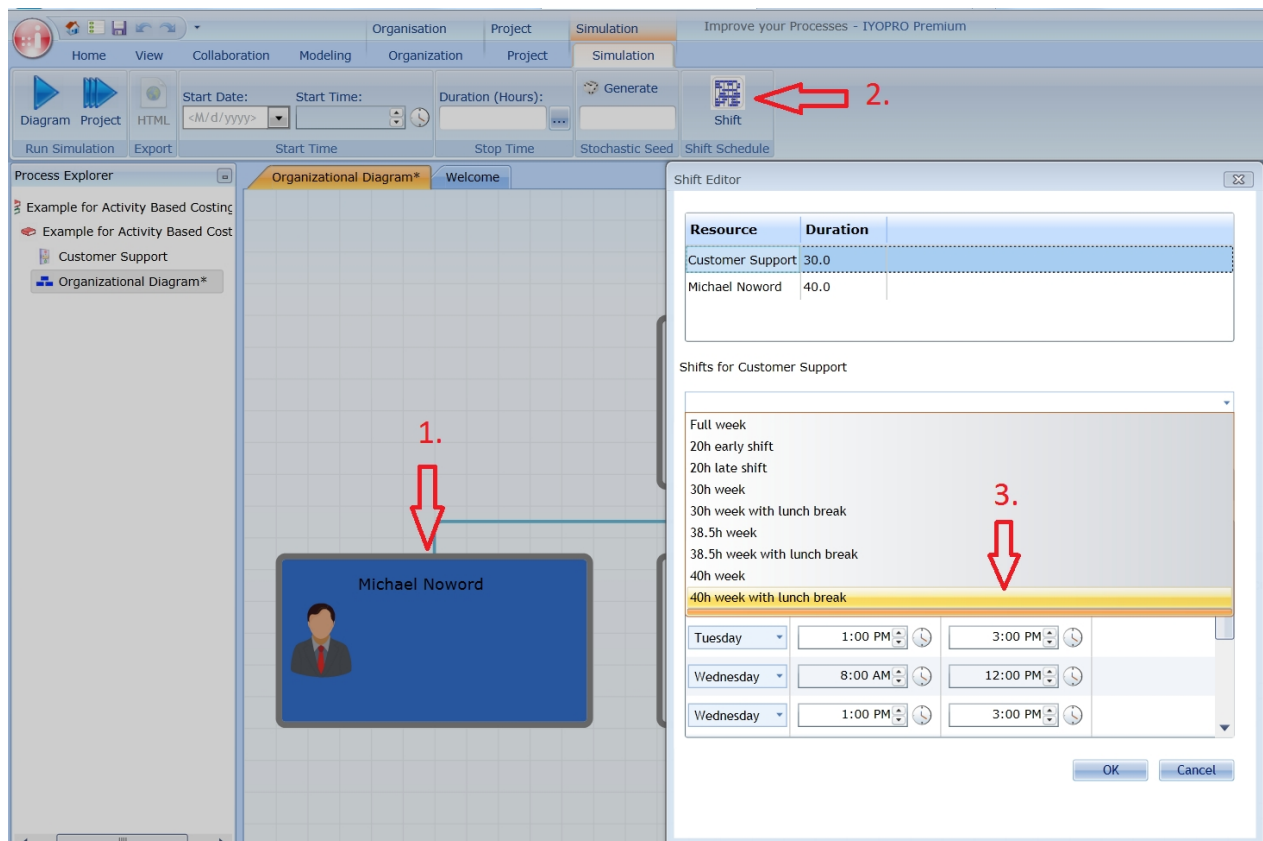

Figure 5: Shift Editor
- Open the shift editor (figure 5)